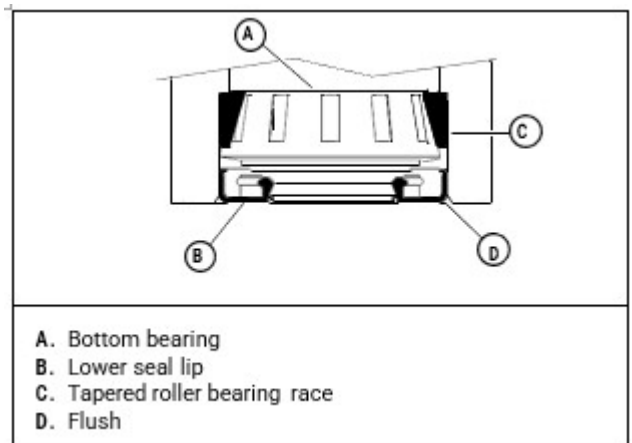

Figure 32
9. Install the bottom bearing and lower seal. Make sure that the lower seal lip is facing out and driven flush with the caster pocket. [Figure 32]
11. Install the caster fork assembly, taking care not to damage the lower seal lip. [Figure 32]